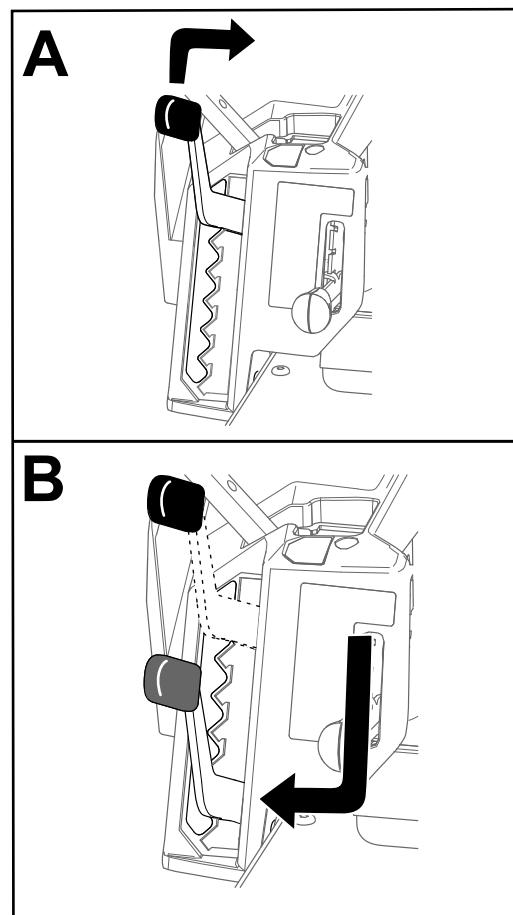

Figure 24
**Note:** The transport position is the highest height-of-cut position or cutting height at 114 mm (4-1/2 inches) as shown in Figure 24.
You can adjust the height of cut from 38 to 114 mm (1-1/2 to 4-1/2 inches) in 13 mm (1/2 inch) increments. The height of cut is controlled by the lever located to the right of the operating position (Figure 24).